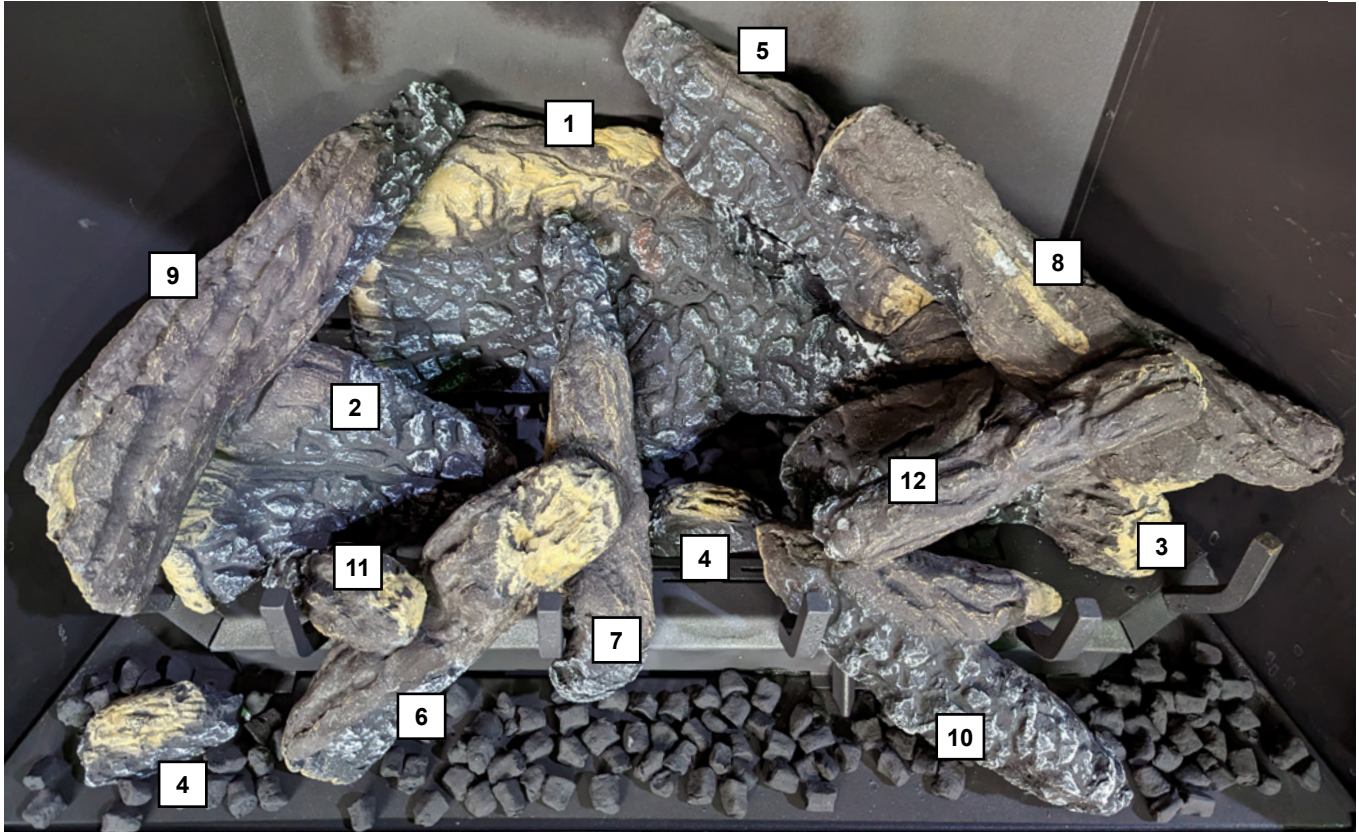
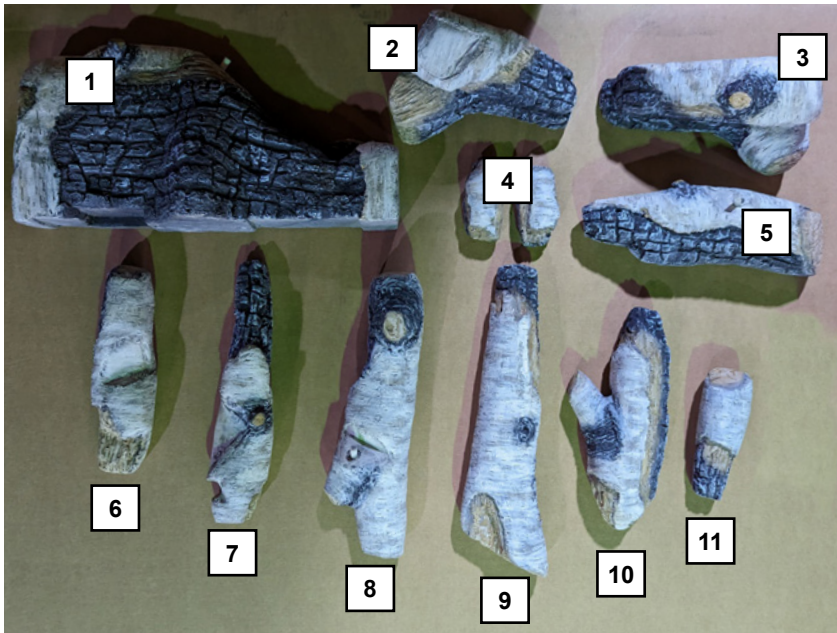

Figure 16.0.20:
Figure 16.0.23:
**NOTE:** See **Figure 16.0.20** through **Figure 16.0.23** for log designations. Improper placement of logs and embers may cause soot accumulation on the internal parts and glass. This is not covered under warranty. Do not use broken or damaged logs.